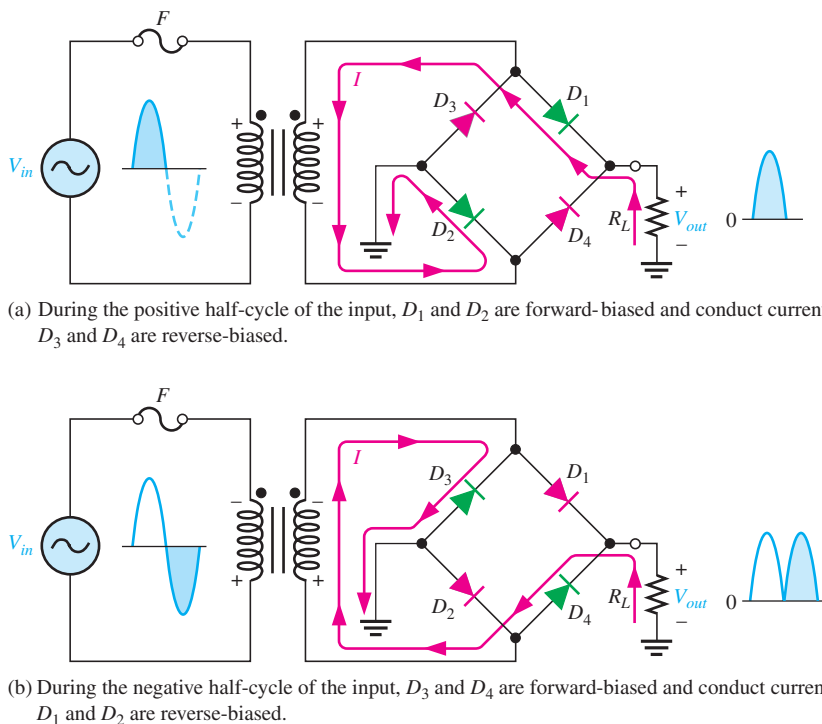

FIGURE 2–38
Determine the peak value of the output voltage for Figure 2–28 if the turns ratio is 0.5.
► **FIGURE 2–28****Solution**
- Determine the peak value of the output voltage for Figure 2–28 if $n = 2$ and $V_{p(in)} = 312 \text{ V}$.
A **full-wave rectifier** allows unidirectional (one-way) current through the load during the entire 360° of the input cycle, whereas a half-wave rectifier allows current through the load only during one-half of the cycle. The result of full-wave rectification is an output voltage with a frequency twice the input frequency and that pulsates every half-cycle of the input, as shown in Figure 2–29.
▲ **FIGURE 2–29**
Find the average value of the full-wave rectified voltage in Figure 2–30.
► **FIGURE 2–30**
A **center-tapped rectifier** is a type of full-wave rectifier that uses two diodes connected to the secondary of a center-tapped transformer, as shown in Figure 2–31. The input voltage is coupled through the transformer to the center-tapped secondary. Half of the total secondary voltage appears between the center tap and each end of the secondary winding as shown.
► **FIGURE 2–31**
For a positive half-cycle of the input voltage, the polarities of the secondary voltages are as shown in Figure 2–32(a). This condition forward-biases diode D_1 and reverse-biases diode D_2 . The current path is through D_1 and the load resistor R_L , as indicated. For a negative half-cycle of the input voltage, the voltage polarities on the secondary are as shown in Figure 2–32(b). This condition reverse-biases D_1 and forward-biases D_2 . The current path is through D_2 and R_L , as indicated. Because the output current during both the positive and negative portions of the input cycle is in the same direction through the load, the output voltage developed across the load resistor is a full-wave rectified dc voltage, as shown.
► **FIGURE 2–32**
Effect of the Turns Ratio on the Output Voltage If the transformer's turns ratio is 1, the peak value of the rectified output voltage equals half the peak value of the primary input voltage less the barrier potential, as illustrated in Figure 2–33. Half of the primary
Related Problem What diode PIV rating is required to handle a peak input of 160 V in Figure 2–36?
The **bridge rectifier** uses four diodes connected as shown in Figure 2–38. When the input cycle is positive as in part (a), diodes D_1 and D_2 are forward-biased and conduct current in the direction shown. A voltage is developed across R_L that looks like the positive half of the input cycle. During this time, diodes D_3 and D_4 are reverse-biased.
When the input cycle is negative as in Figure 2–38(b), diodes D_3 and D_4 are forward-biased and conduct current in the same direction through R_L as during the positive half-cycle. During the negative half-cycle, D_1 and D_2 are reverse-biased. A full-wave rectified output voltage appears across R_L as a result of this action.
Bridge Output Voltage A bridge rectifier with a transformer-coupled input is shown in Figure 2–39(a). During the positive half-cycle of the total secondary voltage, diodes D_1 and D_2 are forward-biased. Neglecting the diode drops, the secondary voltage appears across the load resistor. The same is true when D_3 and D_4 are forward-biased during the negative half-cycle.
As you can see in Figure 2–39(b), two diodes are always in series with the load resistor during both the positive and negative half-cycles. If these diode drops are taken into account, the output voltage is